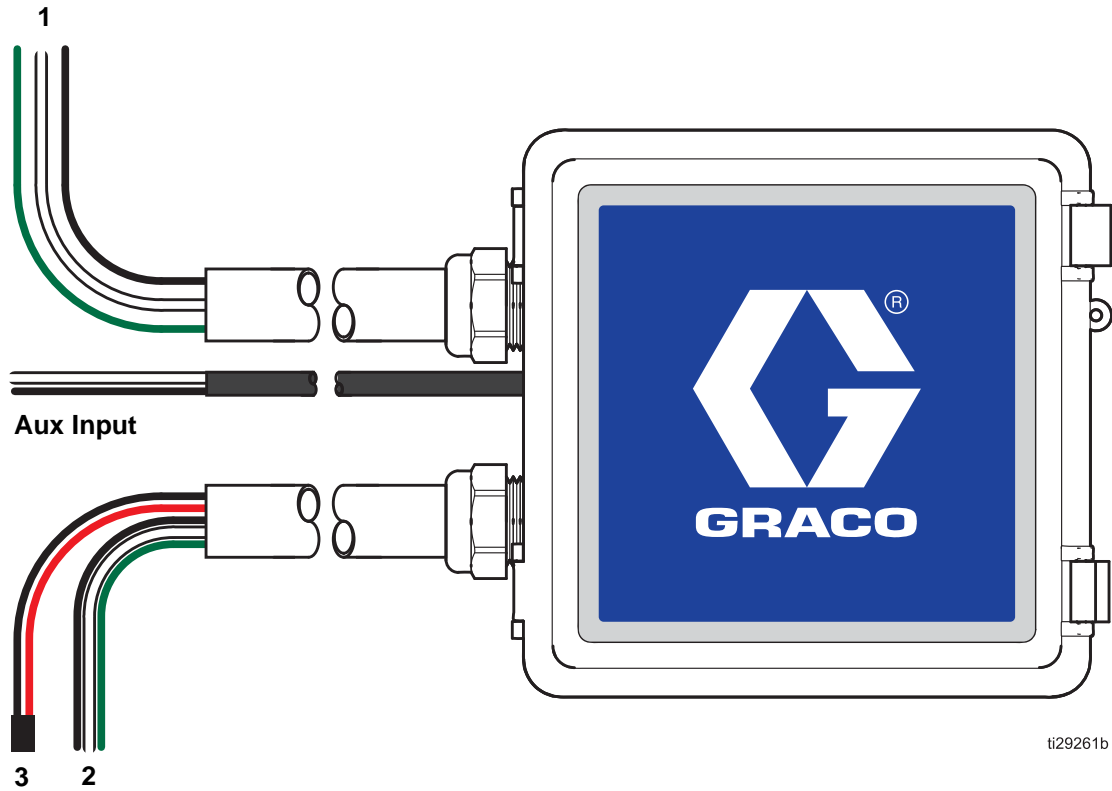

FIG. 3 Wiring Diagram
FIG. 3 is a wiring diagram of the Harrier AC chemical injection controller.
4. Discard the motor power cable (4), conduit, and cord-grip.
5. Install the new motor power cable (2) (from the Harrier AC controller (see FIG. 3)) and cord-grip (5) into
7. Connect the cycle count connector (3), see FIG. 3, to the Wolverine pump cycle switch connector (if applicable).